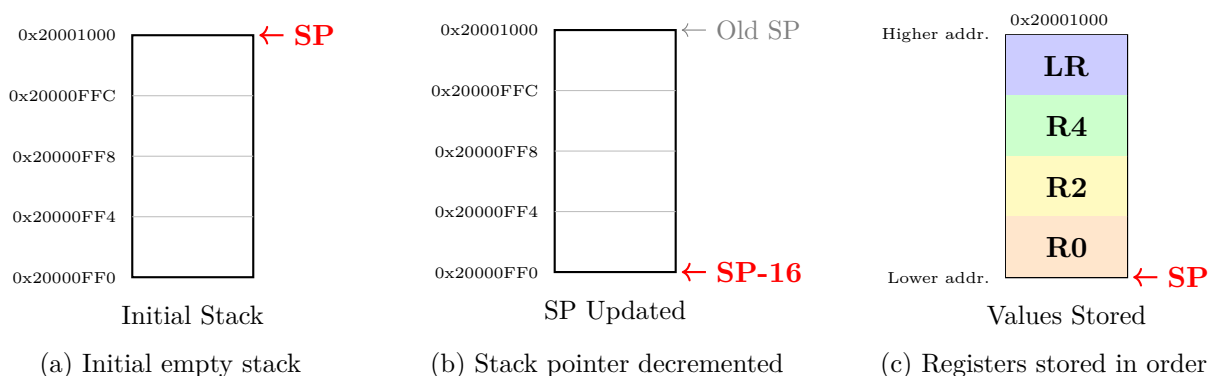

Figure 3.1: Stack operation sequence for PUSH {R4, R0, R2, LR}
Explanation: Figure 3.1(a) shows the empty stack with SP at the top (highest address). When PUSH executes, the processor **decrements SP by 16 bytes** to reserve space for four registers
(Figure 3.1(b)). Finally, in Figure 3.1(c), values are stored according to the rule: the lowest-numbered register (R0) at the lowest address, then R2 and R4, and the highest-numbered (LR) at the highest address. Because the stack grows downward, SP points to the last written word after the operation.